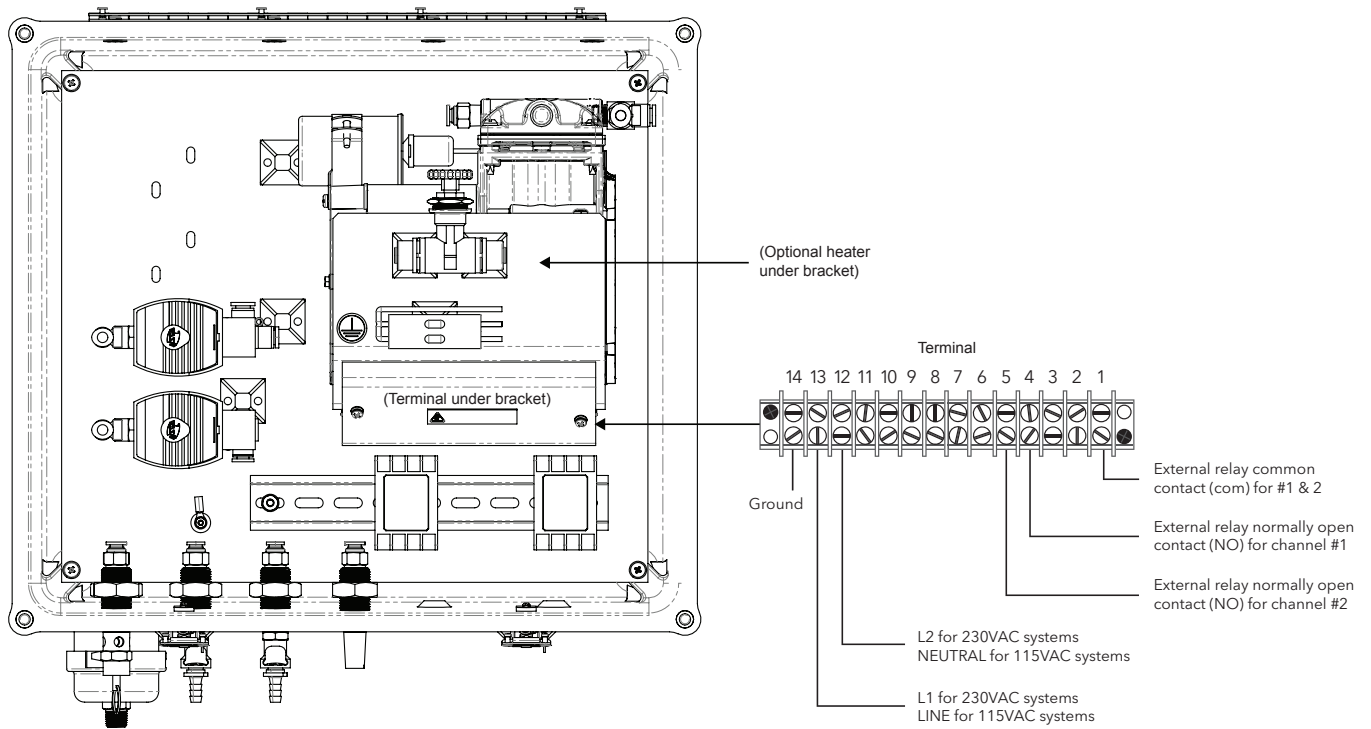

Figure 7 Wiring information for 2-channel units. Pins 2, 3, 6, 7, 8, 9, 10 and 11 are not used.
- f. To wire the heater to a 2 or 4 channel YSI Air Compressor, connect one wire to location 12 on the terminal block and the other wire to location 13. See Figures 7 and 8.